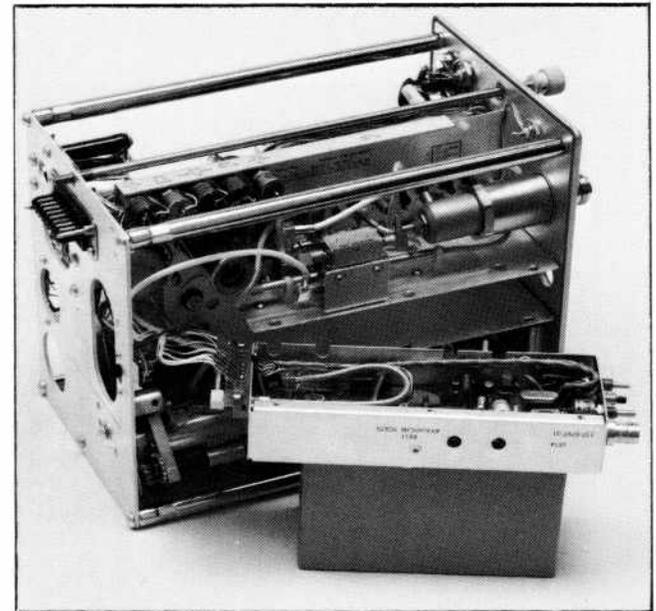
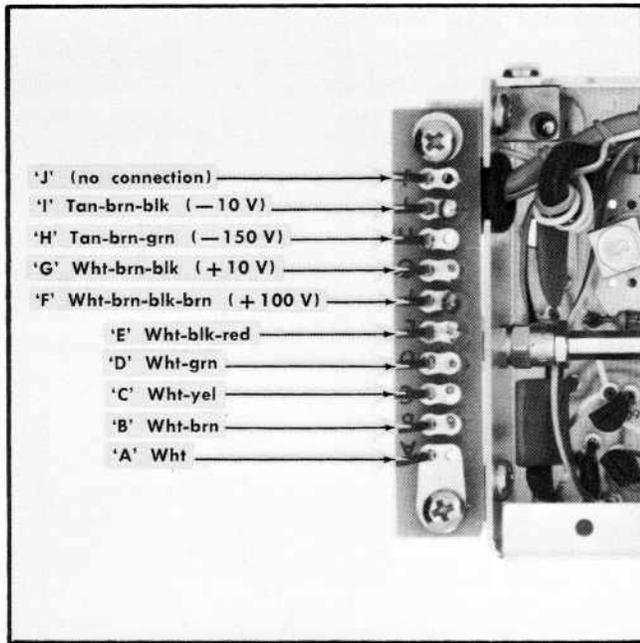
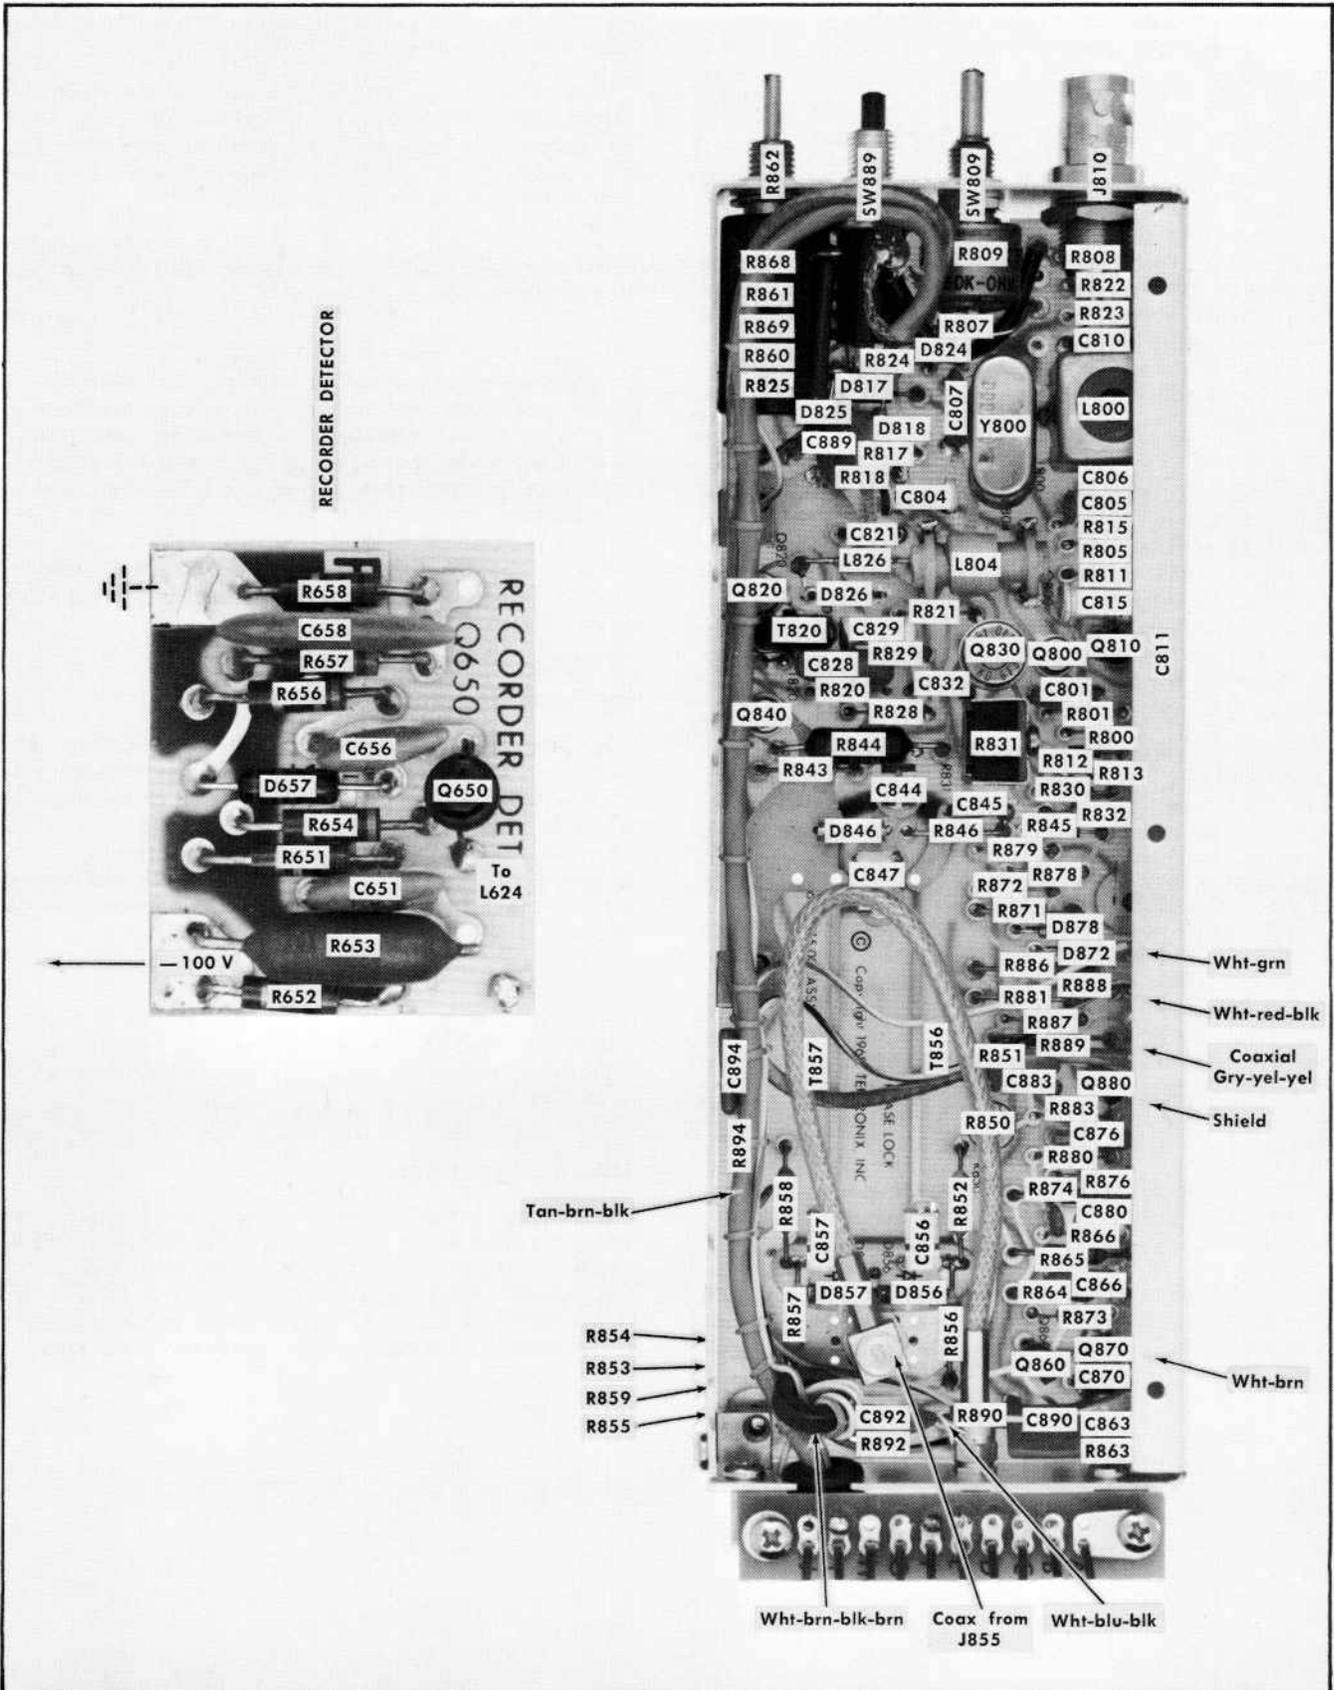

Fig. 4-7. Phase lock assembly removed and ready to troubleshoot.
Fig. 4-8. Wiring color code to phase lock assembly pin connectors.
Fig. 4-11. Phase Lock and Recorder Detector circuit boards.
7. Support the phase-lock assembly on a small block (see Fig. 4-7), then connect the signal lead from the oscillator to J855. Check the lead dress and all connectors to insure that no short circuit exists and all connections are correct (see Fig. 4-8). Power can now be applied and the phase-lock circuit checked for correct voltages and waveforms. Fig. 4-11 illustrates component layout on the circuit board.
2. Refer to the Phase Lock diagram and Fig. 4-8 for the correct voltage and signal cable hook up. Make certain the dot on the FINE RF CENTER FREQ control is indexed at the center of the control range when the knob is replaced.
Check circuit voltages and waveforms against those shown in section 8 of this manual. Figs. 4-11 and 4-12 provide circuit board wiring drawings and component layout information for the honeycomb and the phase lock assemblies. If the trouble cannot be isolated to a circuit, start with the power supply voltages, then proceed consecutively from one circuit to the next until the problem is localized.